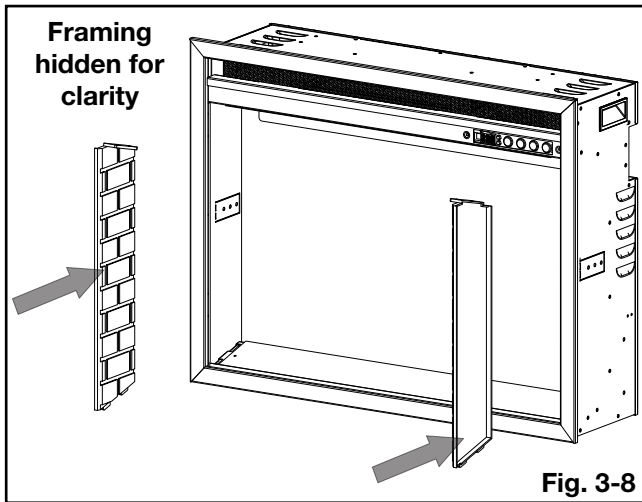
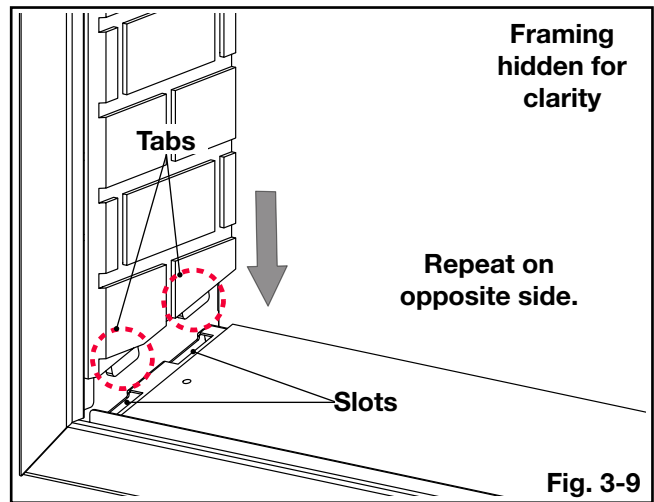
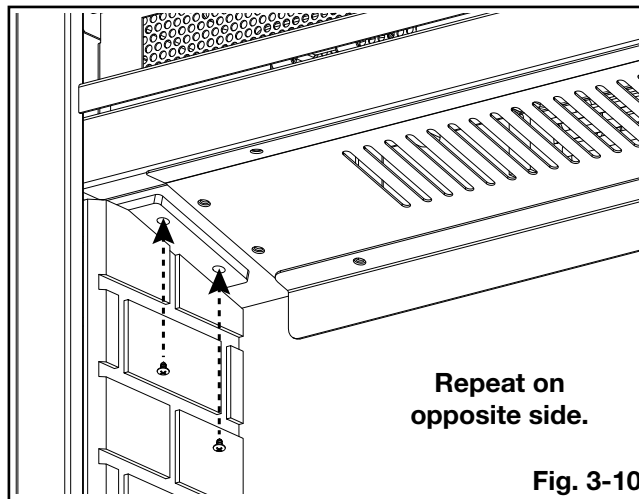

Fig. 3-8
Fig. 3-9
Fig. 3-10
8. Reinstall brick panels if they have been removed (**Fig. 3-8**). Ensure the tabs fit into the slots along the bottom of the firebox (**Fig. 3-9**) before securing the brick panels in place using the 2 screws previously removed in step 4 (**Fig. 3-10**).